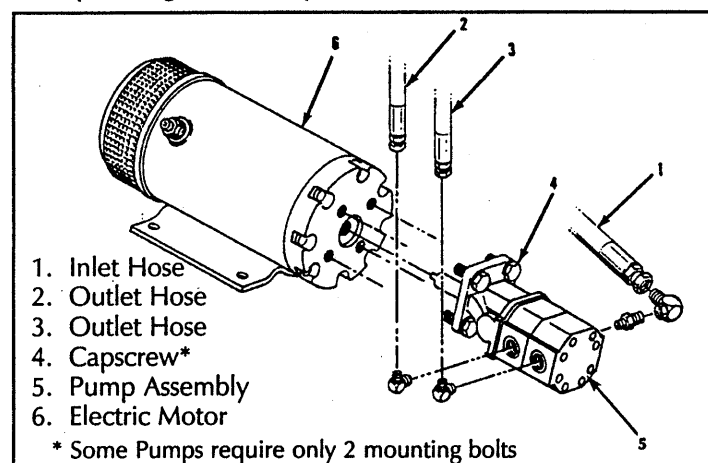

Figure 4-8: Hydraulic Pump
4.8 Hydraulic Pump (Figure 4-8)